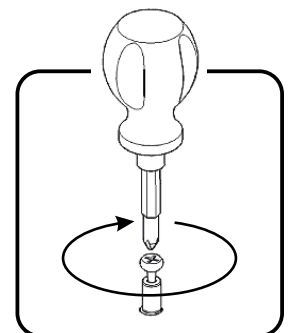

Figure 1
Insert Cam Lock Screws into pre-drilled holes in Top (A), Side Panels (B), (C), Middle Panel (D), Bottom (E) and Plinths (J), then tighten. (See Figure 1)